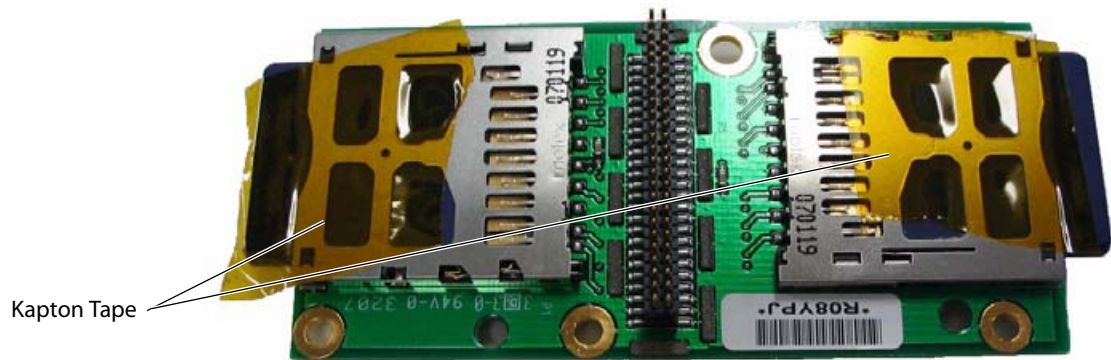

Figure 4.13 SD Card Installation (Bottom View)
- 1 Remove the SD Cards from the old daughter-card, and install into the SD Card holders on the bottom of the replacement Daughter-card as shown in Figure 4.13.
- 2 Secure the SD Cards to the holders using Kapton tape as shown in Figure 4.13.